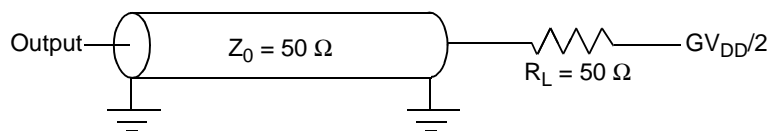
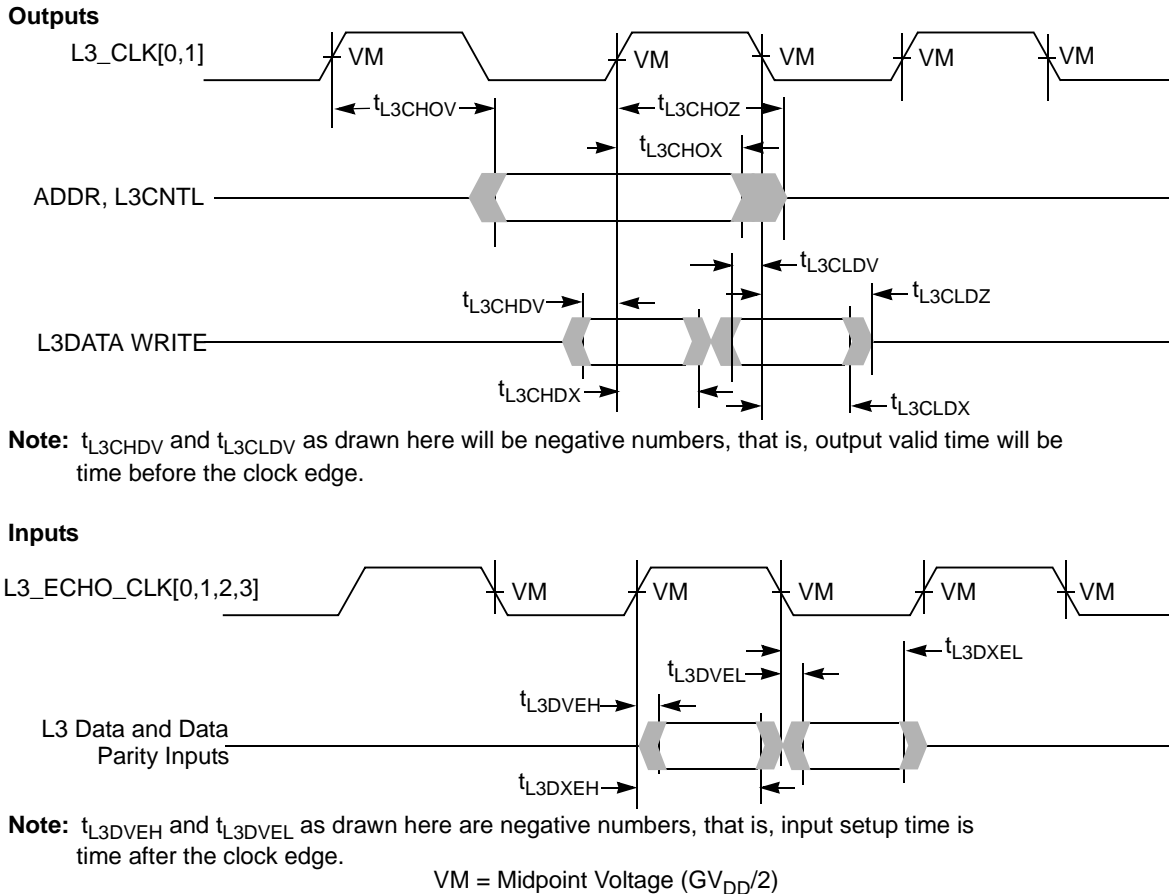
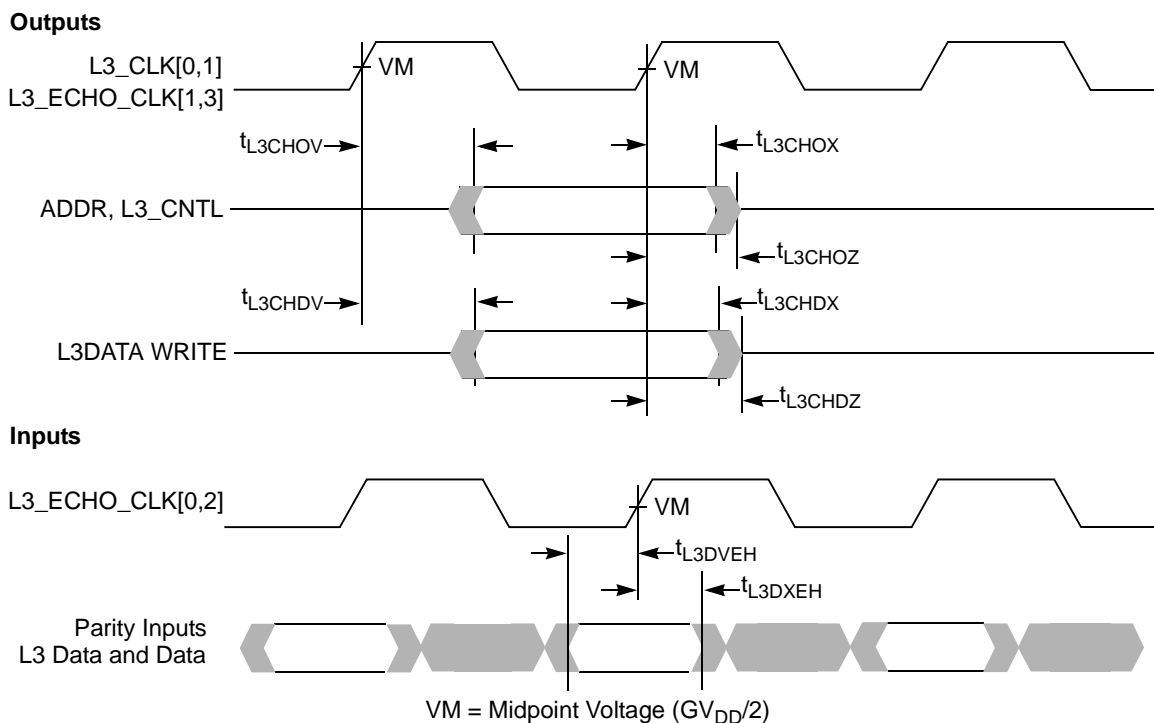

Figure 8. AC Test Load for the L3 Interface
Figure 10. L3 Bus Timing Diagrams for L3 Cache DDR SRAMs
Figure 12. L3 Bus Timing Diagrams for Late Write or PB2 SRAMs
- For high speed operations, L3 interface address and control signals should be a ‘T’ with minimal stubs to the two loads; data and clock signals should be point-to-point to their single load. Figure 8 shows the AC test load for the L3 interface.
Table 13 provides the L3 bus interface AC timing specifications for the configuration as shown in Figure 9, assuming the timing relationships shown in Figure 10 and the loading shown in Figure 8.
2. For DDR, all input specifications are measured from the midpoint of the signal in question to the midpoint voltage of the rising or falling edge of the input L3_ECHO_CLK n (see Figure 10). Input timings are measured at the pins.
3. For DDR, the input data will typically follow the edge of L3_ECHO_CLK n as shown in Figure 10. For consistency with other input setup time specifications, this will be treated as negative input setup time.
5. All output specifications are measured from the midpoint voltage of the rising (or for DDR write data, also the falling) edge of L3_CLK to the midpoint of the signal in question. The output timings are measured at the pins. All output timings assume a purely resistive 50- Ω load (see Figure 8).
6. For DDR, the output data will typically lead the edge of L3_CLK n as shown in Figure 10. For consistency with other output valid time specifications, this will be treated as negative output valid time.
Figure 10 shows the L3 bus timing diagrams for the MPC7457 interfaced to MSUG2 SRAMs.
Table 14 provides the L3 bus interface AC timing specifications for the configuration shown in Figure 11, assuming the timing relationships of Figure 12 and the loading of Figure 8.
3. All input specifications are measured from the midpoint of the signal in question to the midpoint voltage of the rising edge of the input L3_ECHO_CLK n (see Figure 10). Input timings are measured at the pins.
4. All output specifications are measured from the midpoint voltage of the rising edge of L3_CLK n to the midpoint of the signal in question. The output timings are measured at the pins. All output timings assume a purely resistive 50- Ω load (see Figure 10).
Figure 12 shows the L3 bus timing diagrams for the MPC7457 interfaced to PB2 or Late Write SRAMs.